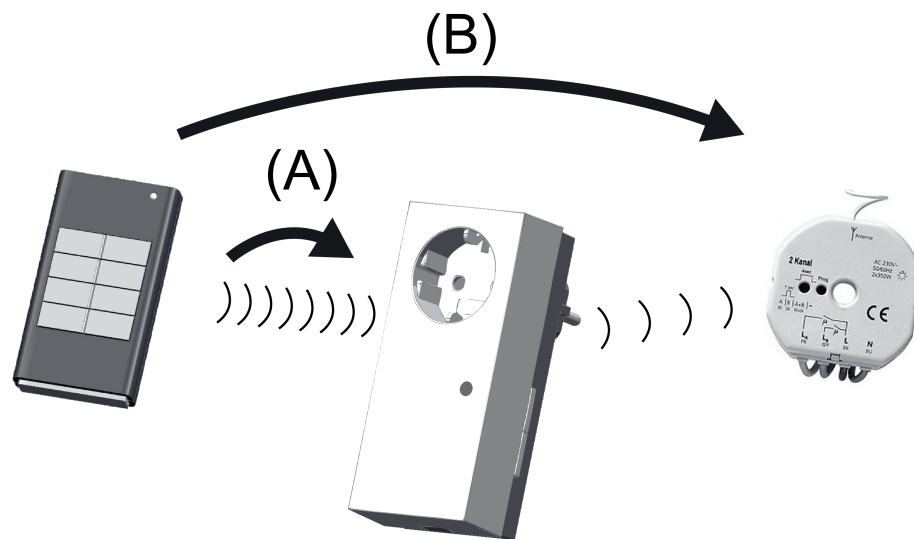

Figure 3: Connecting the eNet transmitter
Connection takes place in two steps (figure 3). First an eNet transmitter is connected to the gateway (A), and, in the second step, the eNet transmitter connected to one or more Radio Management actuators (B).